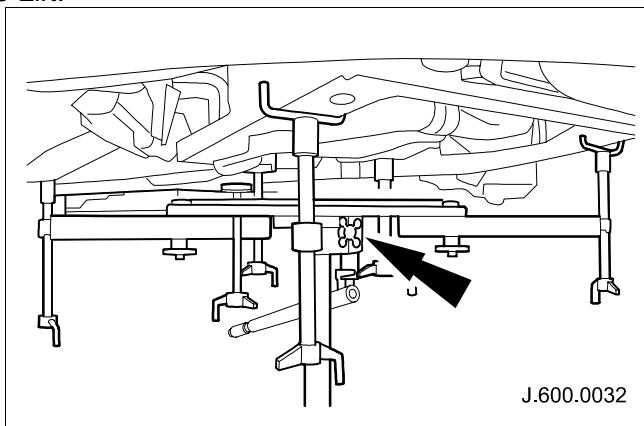

Fig. 1
**Note: If the load on the Nike lift has still not lowered, the hydraulic release valve must not be turned more than half a turn. (See Fig. 1)**